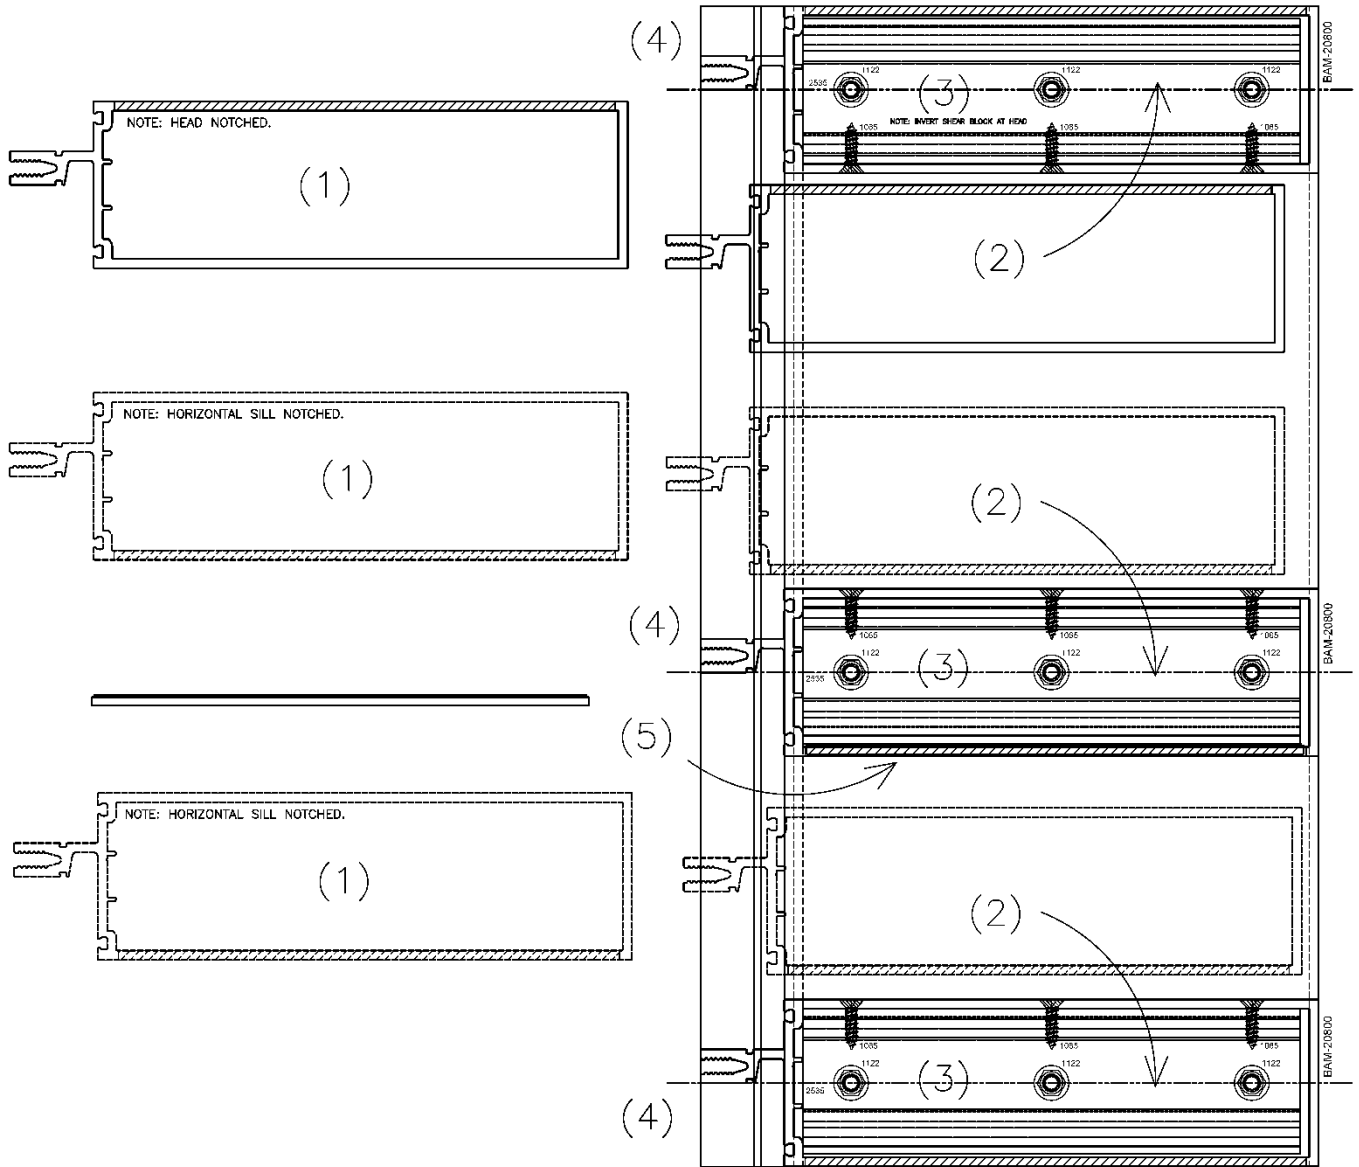

FIGURE J.1
- Installation of 10" horizontals. (FIGURE J.1)